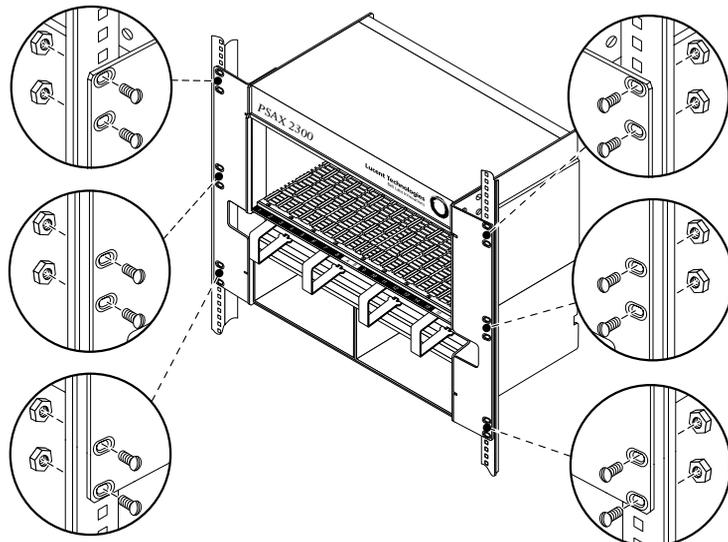
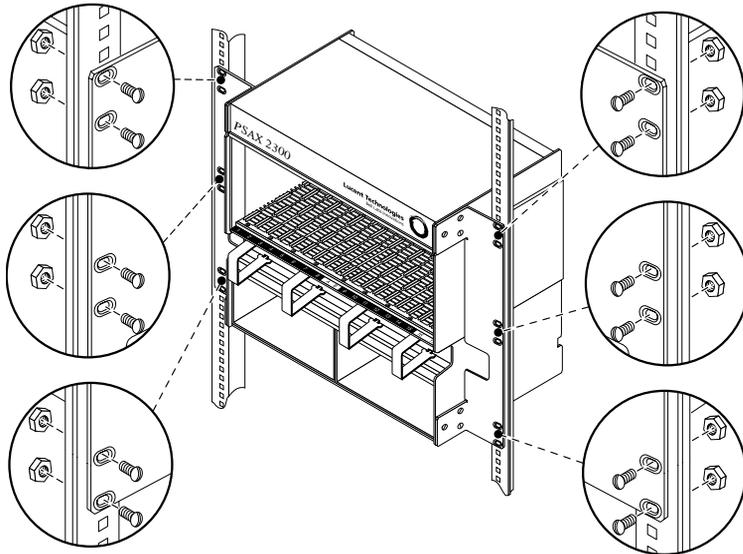
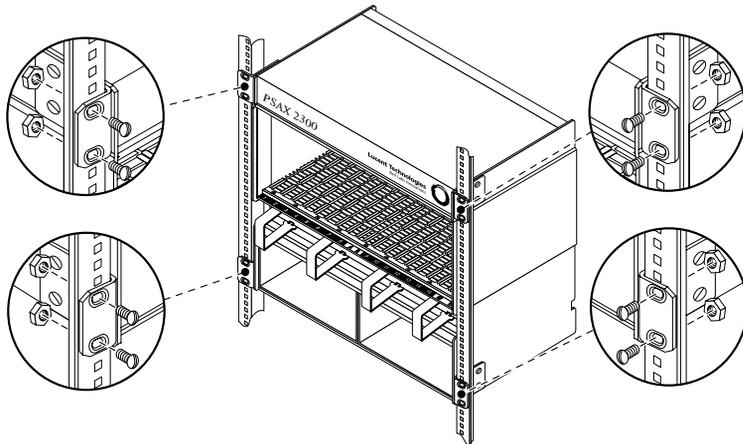

Figure 5. Securing the PSAX 2300 Chassis to a 23-in. Telco Frame (Flush-Mount Position)
Figure 6. Securing the PSAX 2300 Chassis to a 23-in. Telco Frame (Mid-Mount Position)
Figure 7. Securing the PSAX 2300 Chassis to a 19-in. Telco Frame (Front-Mount Position)
- 3 Secure the chassis to the cabinet or the frame with the screws provided in the installation kit as shown in Figure 5, Figure 6 on page 30, and Figure 7 on page 30.